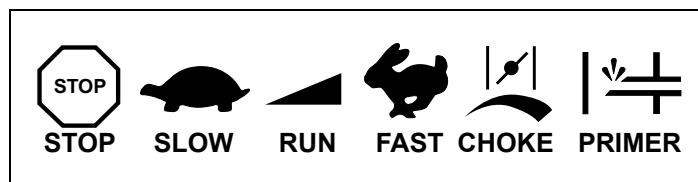

Figure 19. Typical Engine Symbols
4. Move Engine Speed Control to "FAST" position and set Choke Control to "FULL" position (see equipment manufacturer's instructions). See Figures 19 thru 22.